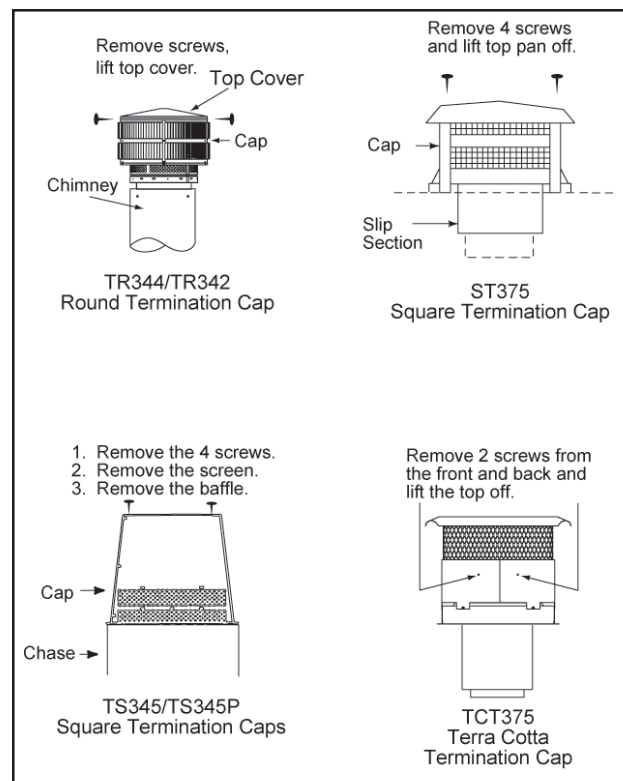

Figure 28
- Remove the termination cap or housing top. See Figure 28.